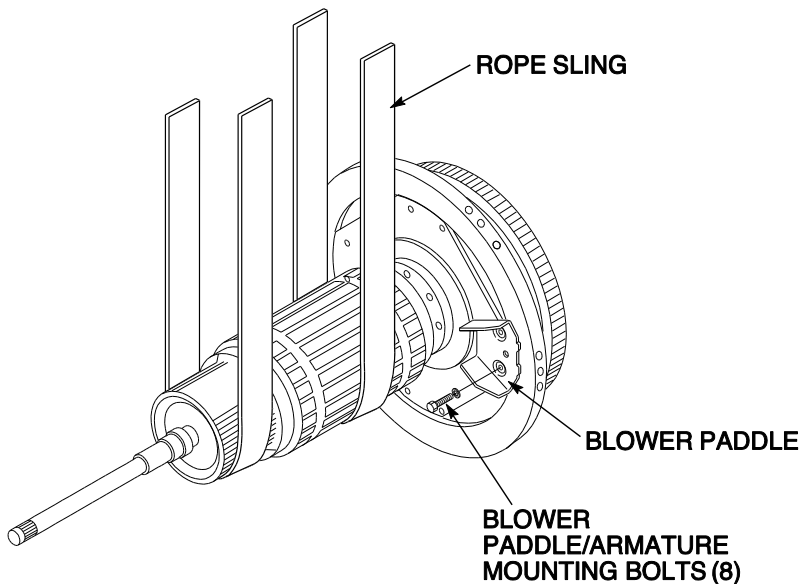

Figure 16
5. Using the rope sling, support the armature. Position the sling at the center of gravity of the armature assembly. **See Figure 16.**